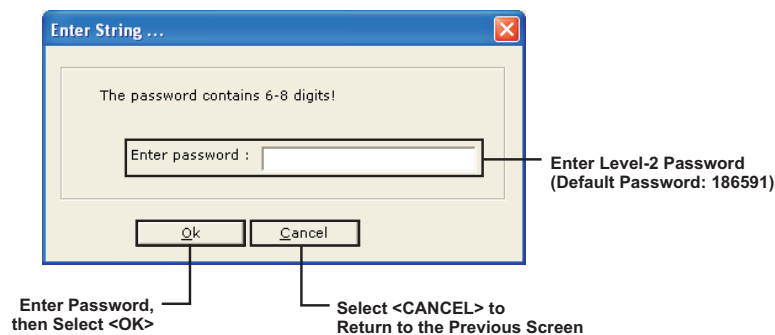

Figure 4-20. Enter Password
1. Select **Tools>Event Log>Clear** to remove all currently recorded events from the system event log. In response, a password request (Figure 4-20) is displayed.
Following selection of the Clear Event Log option, FCS immediately displays the password prompt (Figure 4-20) for **Single Control Unit** installations.